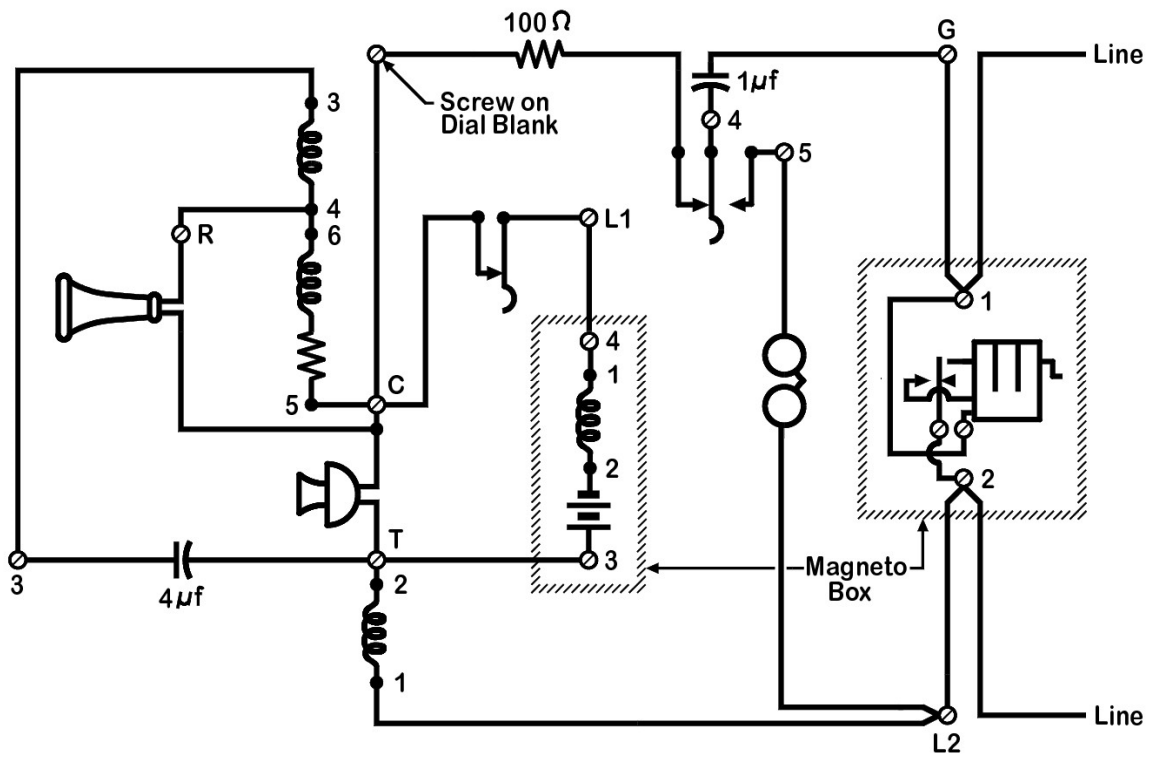

Fig. 22-7 Improved
- Page 208. In Fig. 22-7, improved terminal markings are included in the Magneto Box (modified figure provided below).